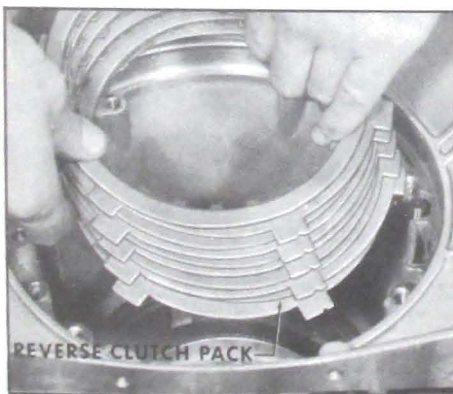

Figure 5-151
3. Remove reverse clutch pack from transmission case. See Figure 5-151.